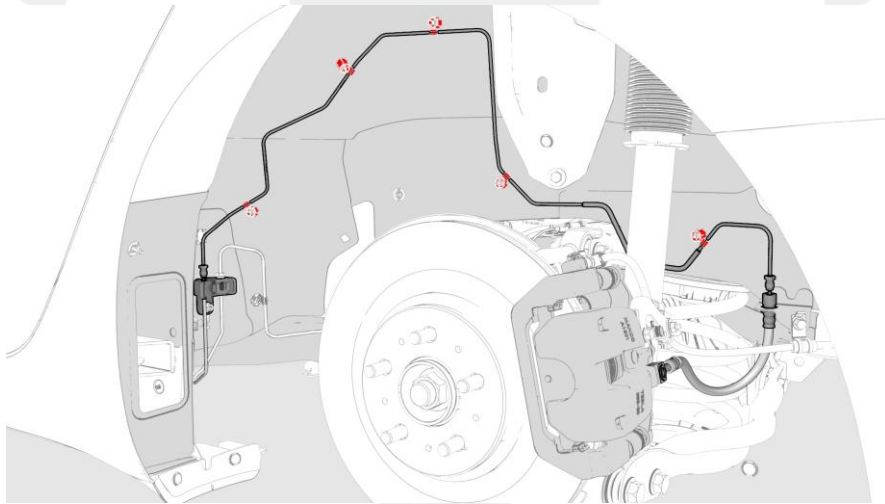

Figure 5
8. Install the LH to sill brake line to the body, and then fasten the clips that attach the brake line to the body (Figure 5).